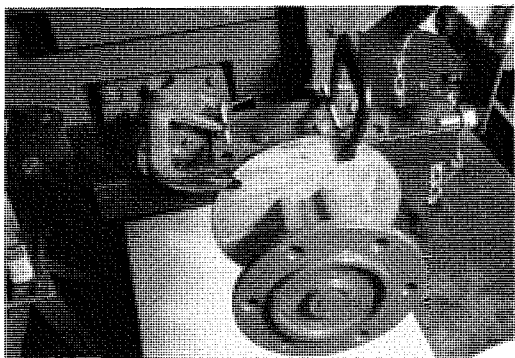

FIGURE 4
Place a piece of $\frac{5}{16}$ " bar stock (at least 8" long) between the disc (35) and the plate (23). See Fig. 4. Pull the rear of the plate flat against the bar to line the plate up with the disc. Clamp together then push firmly against the frame (see illustration). Select a spring anchor, or combination of spring anchors (37, 42, 43) with a total thickness of $\frac{1}{32}$ " to $\frac{1}{16}$ " less than the space (see illustration), and insert between the plate and the tractor hitch mounting angle. Fasten with a $\frac{3}{8}$ -16 x $1\frac{1}{4}$ bolt and $\frac{3}{8}$ nut. Then tighten.